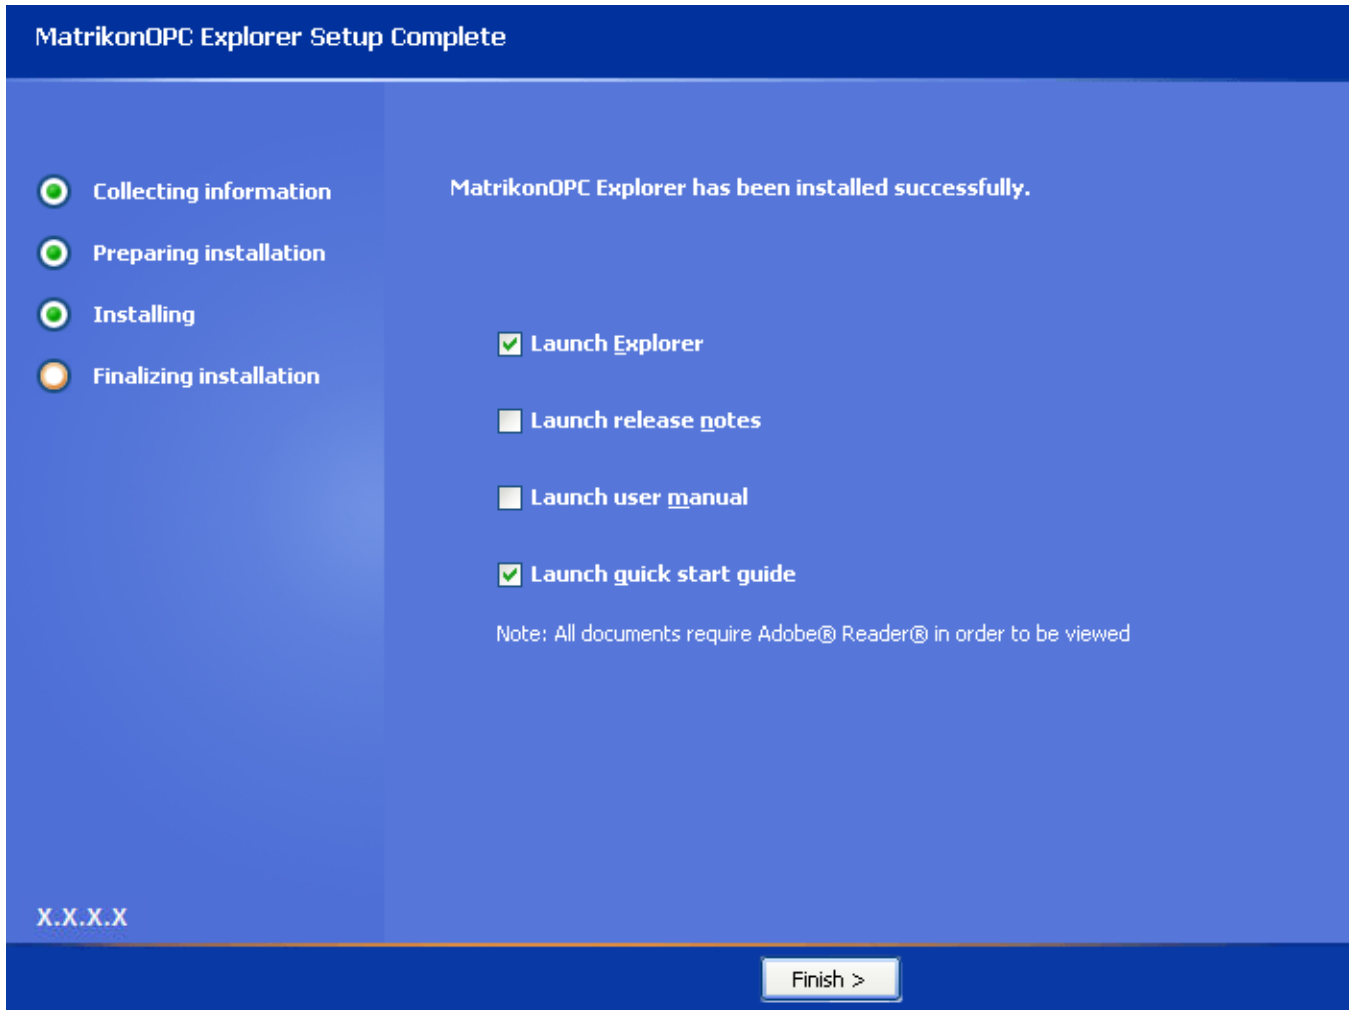

Figure 6 - MatrikonOPC Explorer Setup Complete Screen
11. When the installation has finished, the **MatrikonOPC Explorer Setup Complete** screen (Figure 6) appears stating that MatrikonOPC Explorer has been successfully installed.